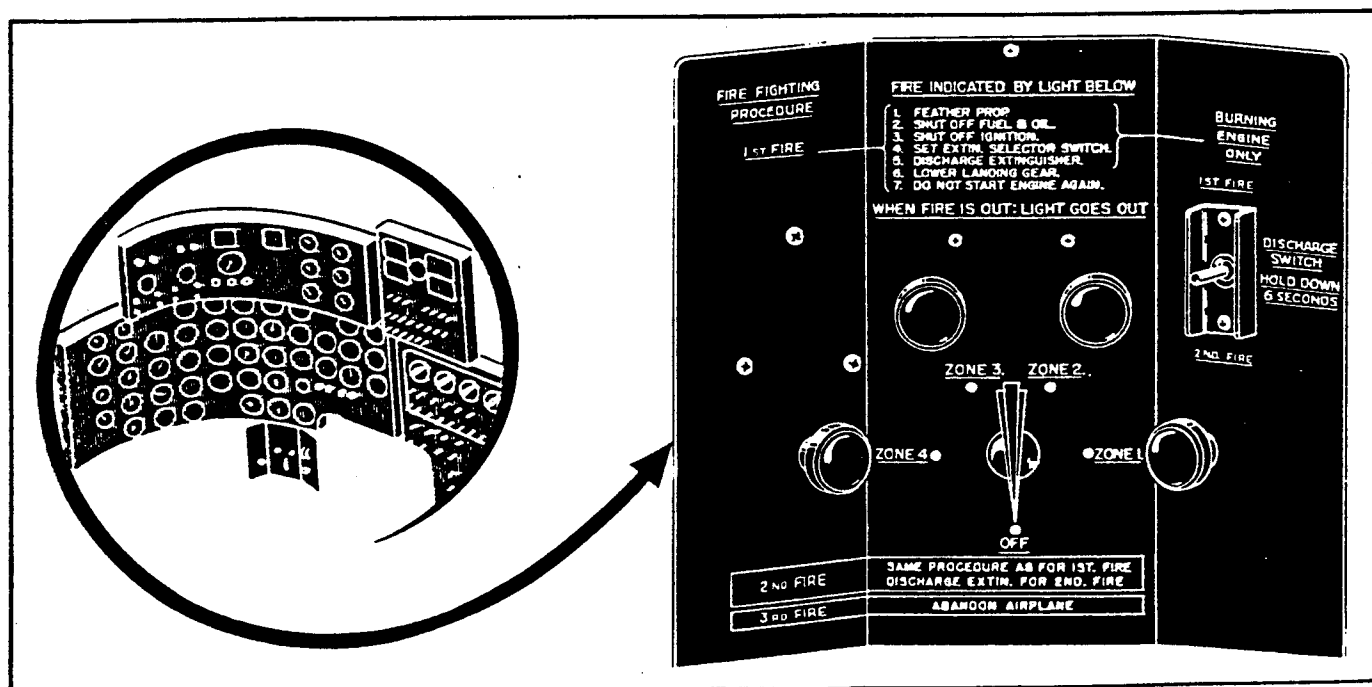

Figure 4. Engine Section Fire Control Panel
(4) DISCHARGE CONTROLS. (See figure 4.)